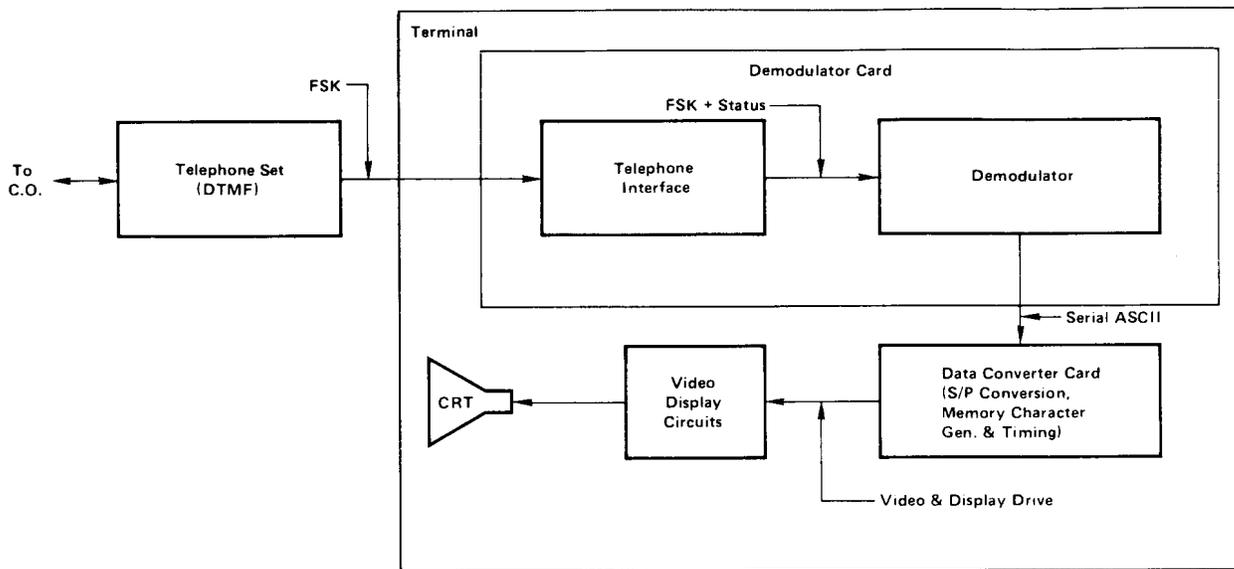
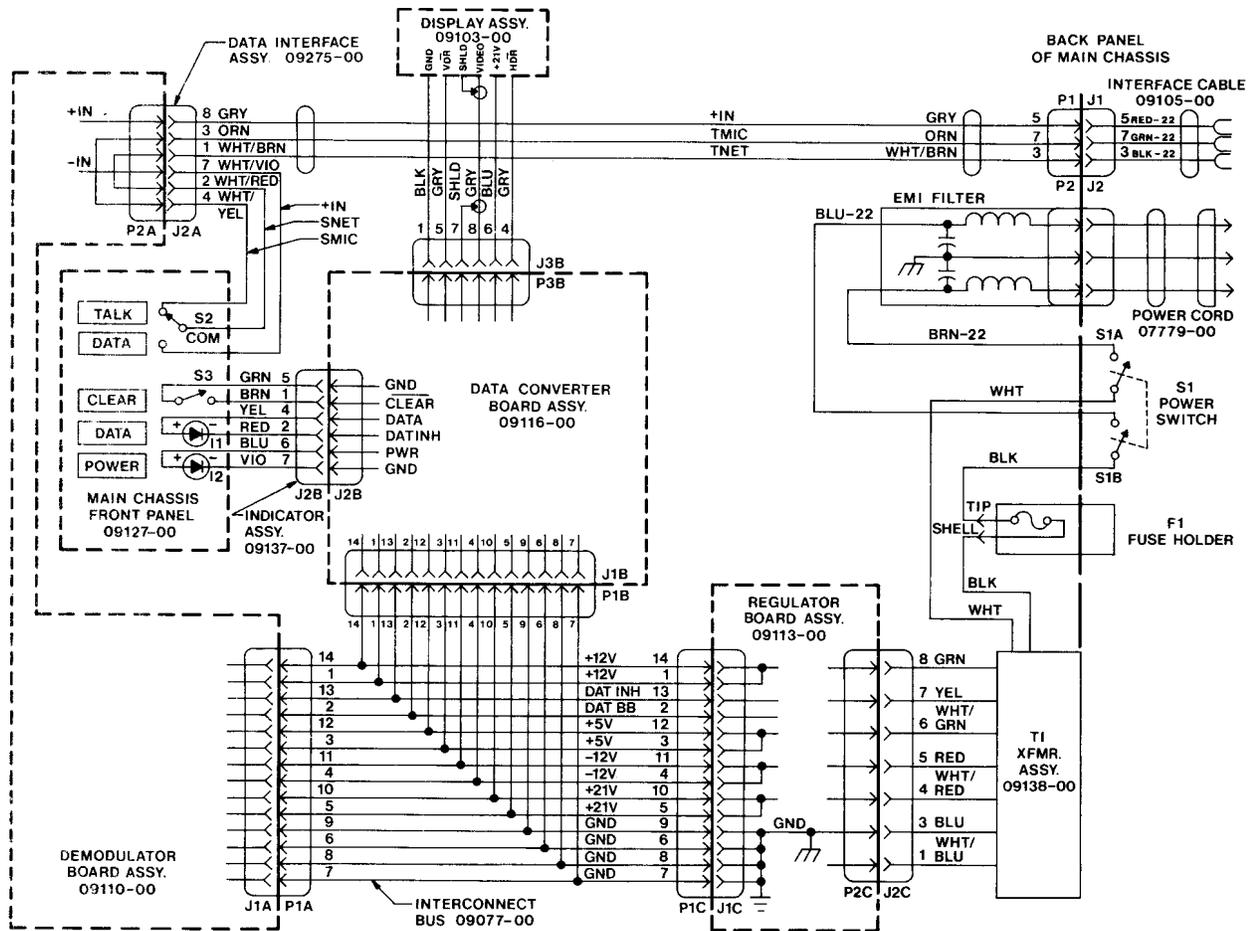

Figure 6, Terminal Function Block Diagram
Figure 7, Terminal Interconnect Wiring Diagram
3.02 Figure 6 is a functional block diagram of the VuSet terminal. The terminal is a receive-only device which displays received ASCII-FSK data. Figure 7 is the interconnect diagram for the terminal subassemblies.